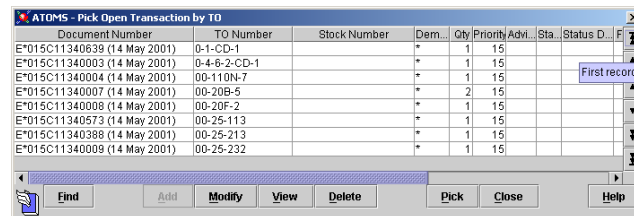

Figure 5-20. Pick Open Transaction by TO
- 2) Click the **Browse by TO** button. The **Pick Open Transaction by TO** window appears (Figure 5-20).